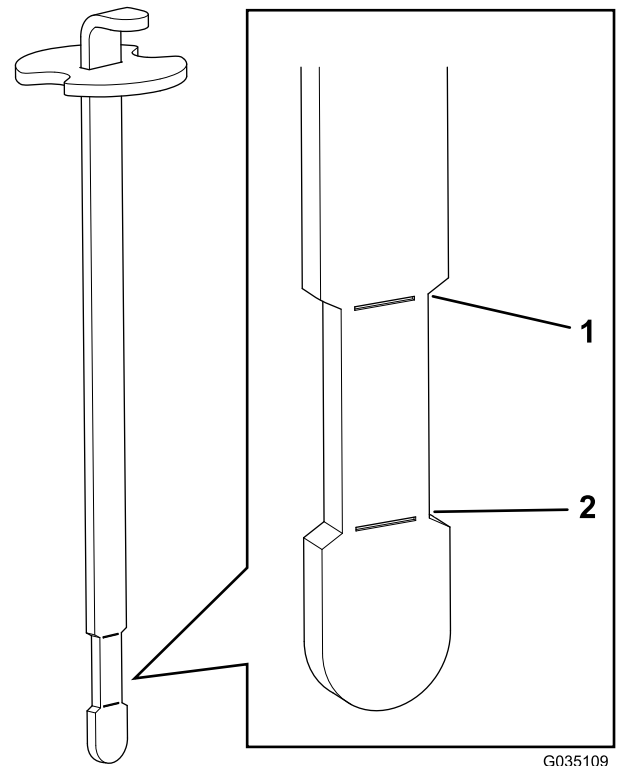

Figure 43
6. Insert the dipstick into the filler neck; then remove it and check the level of the fluid (Figure 43).